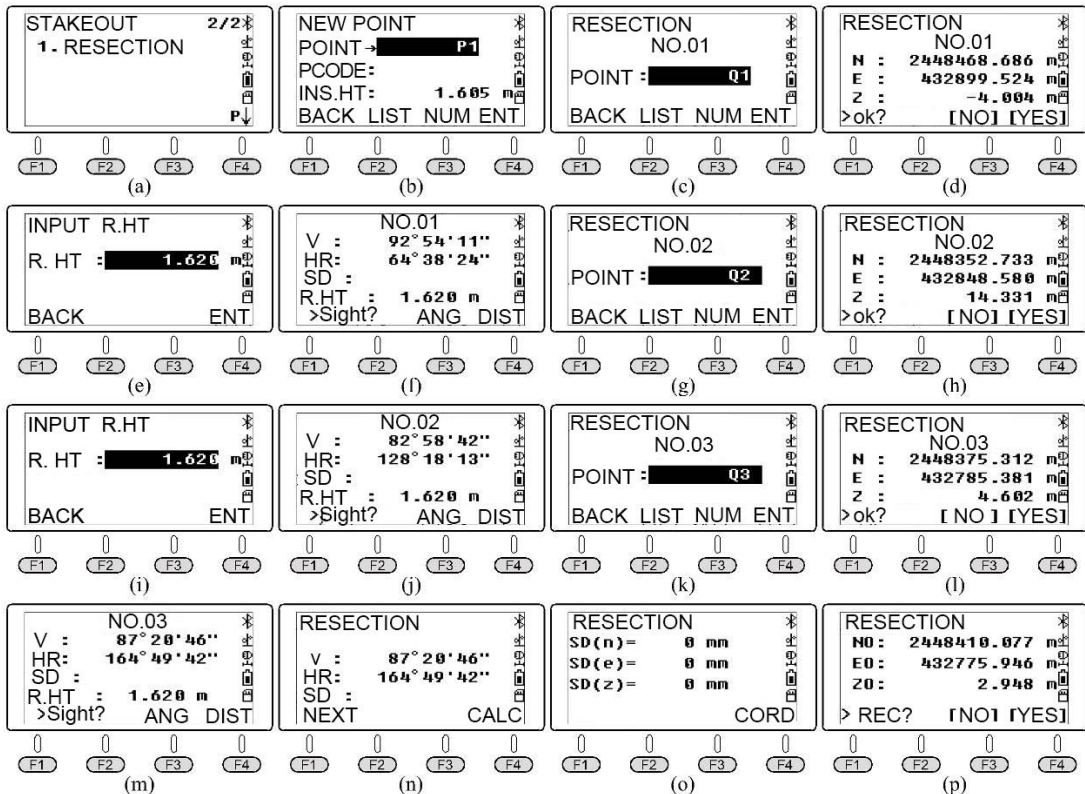

Figure 2-55 Execute the command "S. O - Resection " command to observe three known points and calculate the coordinates of the survey station (Angle Resection)
The difference results of comparison between the coordinates of the measured stakeout points and the designed values in MS-Excel, are shown in Figure 2-55.
(1) Angle Resection
In the menu "Stakeout 2/2" [Figure 2-55(a)], press (1) (Resection) to enter the interface as
shown in Figure 2-55(b). At least 3 known points should be observed to calculate coordinates of the survey station in Angle Resection.
- ① Observe the first known point: Input name of new survey station as P1 and instrument height [Figure 2-55(b)]. Press **(F4)** (ENT) to enter the observation interface of the first point of resection and input the name of known point as Q1[Figure 2-55(c)]. Press **(F4)** (OK), the system will call the coordinate of point Q1[Figure 2-55(d)] from the known coordinates and the current coordinate file. Press **(F4)** (Yes) and input the prism height of point Q1 [Figure 2-55(e)]. Press **(F4)** (ENT) to make the telescope aim at the center of prism at point Q1 [Figure 2-55(f)]. Press **(F3)** (ANG.) to complete the observation of the first known point and enter the observation interface of second point. In the interface shown in Figure 2-55(c), you can also press **(F2)** (LIST) to call the coordinate of point Q1 from the list of points names.
- ② Observe the second known point: The operation process is shown in Figure 2-55(g)~(j).
- ③ Observe the third known point: The operation process is shown in Figure 2-55(k)~(m).
- ④ After completing the angle observation of the three known points Q1, Q2 and Q3, enter the interface as shown in Figure 2-55(n): Press **(F1)** (Next) to continue the observation of the fourth known point, and the operation process is the same as above. Or press **(F4)** (CALC), and the result is shown in Figure 2-55(o). Press **(F4)** (NEZ), and the screen displays the calculated result of coordinates of the survey station point [Figure 2-55(p)]. Press **(F4)** (Yes) to save the coordinates of the survey station point to the current coordinate file.
(2) Distance Resection